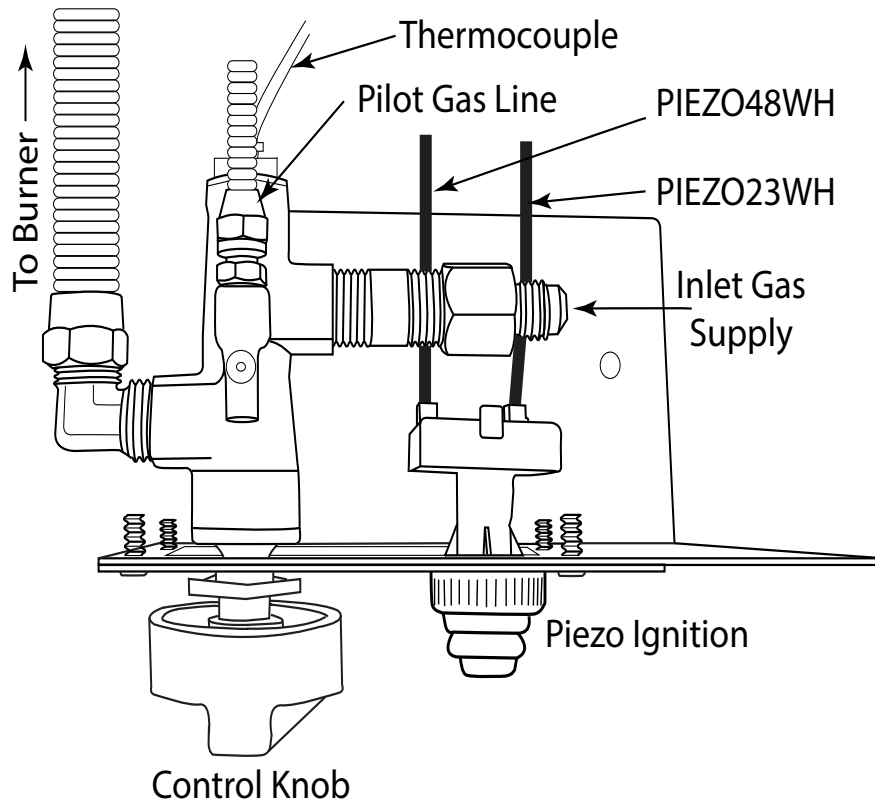

Fig. 7. Installing fittings.
STEP 2: The TPSI gas valve is supplied partially assembled. You will need to connect the Piezo wires, pilot tubing, inlet gas supply and flex line to the fire pit. See Fig. 7.